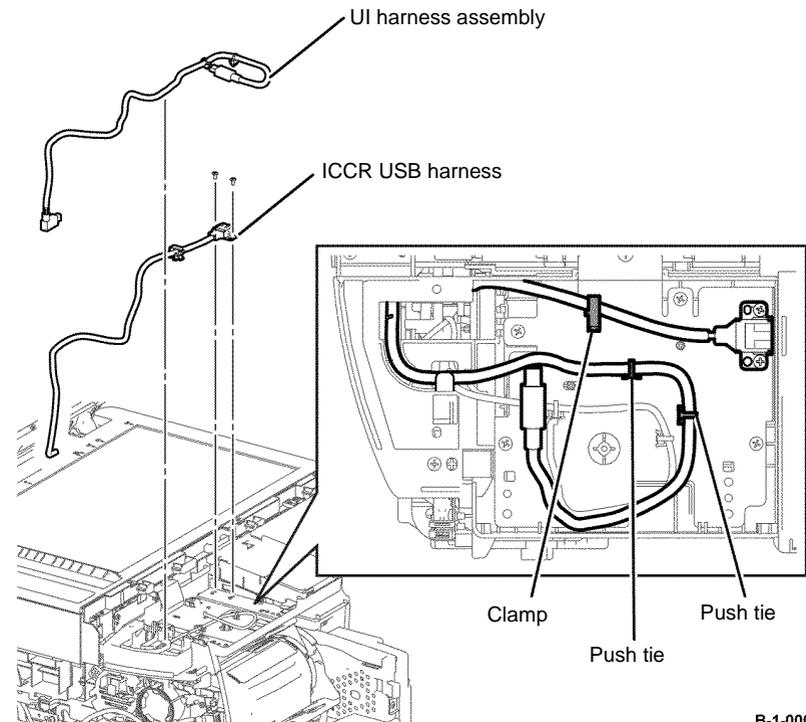

Figure 3 ICCR USB and UI harnesses removal
13. Release one clamp, remove two screws (silver, M3, 6mm), then remove ICCR USB harness, Figure 3.
14. Release two push ties, then remove the UI harness assembly, Figure 3.